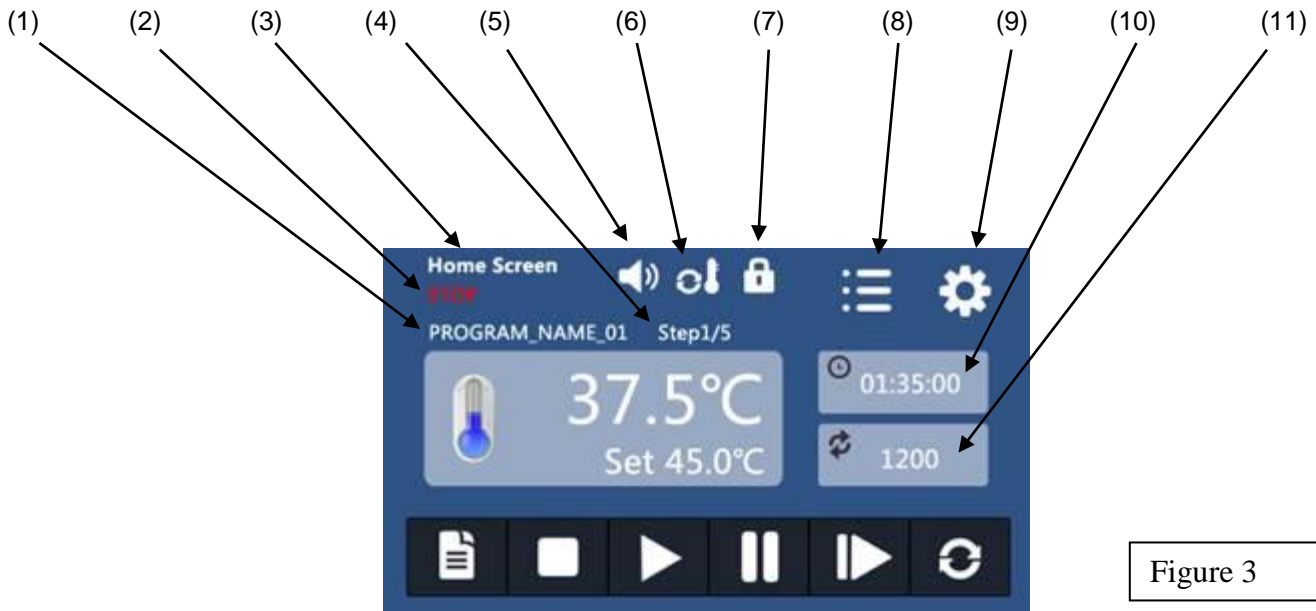

Figure 3
4.3 Home Screen (Figure 3) – The home screen displays all operating parameters and allows for access to menus to configure the unit